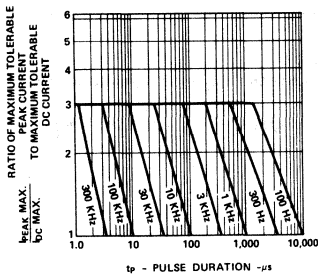

Figure 5. Maximum Tolerable Peak Current vs. Pulse Duration. (I_{DC} MAX as per MAX Ratings)
1. See Figure 5 (Red), 10 (Yellow), or 15 (Green) to establish pulsed operating conditions.